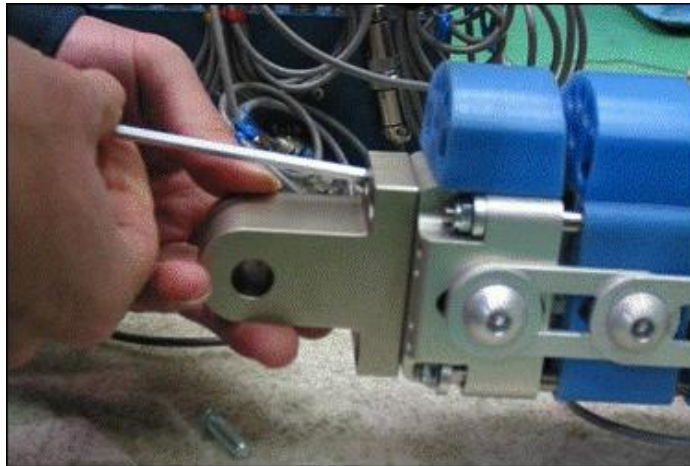

Figure 86 . Attaching Pendulum Rig Pivot hinge
Step 8: Remove the black protective cover (Part Nr 133 – 5516) from the tibia bottom and attach the Pivot Hinge (Part Nr 133-8418) as shown in Figure 86 using four M6 x 18 long screws.